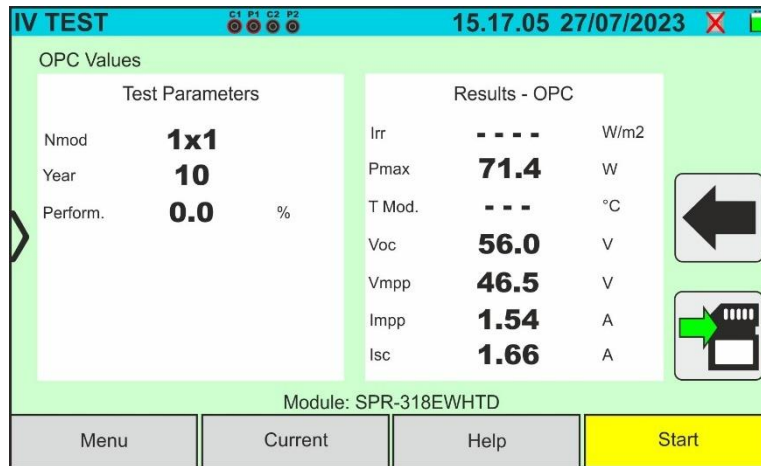

Fig. 38: I-V curve measurement result without remote unit
9. Press the **START/STOP** key (or **Start** on the display) to activate the tests. If there are no error conditions, the instrument will show the icon "⌚" on the display for a few moments together with the message **"Measuring..."** The test can take **up to approximately 20 seconds**, depending on the open circuit voltage and module parameters. In the absence of a direct connection to the SOLAR03 unit, the instrument will show **only the measured values @OPC without the irradiance and module temperature references** (see Fig. 38) **and without final result**